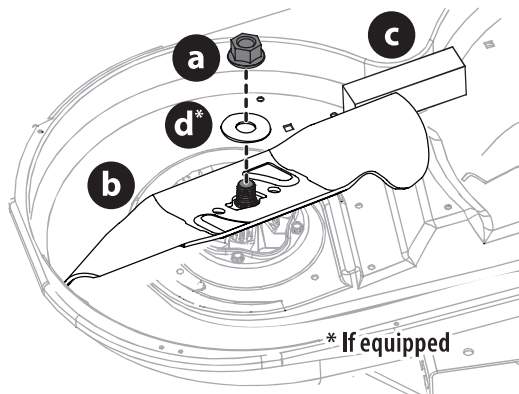

Figure 31
2. Place a block of wood (c) between the deck housing and the cutting edge of the blade (b) to help in breaking loose the hex nut (a) and washer (d)\* securing the blade (b). Use a 15/16 inch wrench to loosen the hex nut (a) and washer (d)\* (Figure 31).
2. When re-installing blades, be sure of the following (Figure 31):
3. Tighten hex nuts (a) to 70-90 ft-lbs (95-122 N-m) (Figure 31).